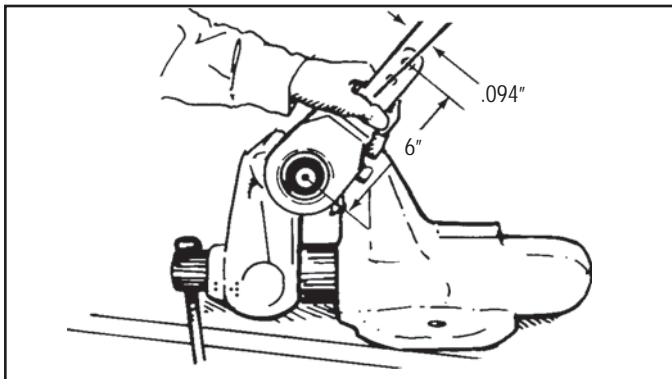

FIGURE 8 - CHECKING SLACK ADJUSTER BACKLASH
- B. Check for spline wear. The amount of backlash in the slack adjuster to camshaft should be no more than .094" measured 6" from centerline of the cam shaft (See Figure 8).